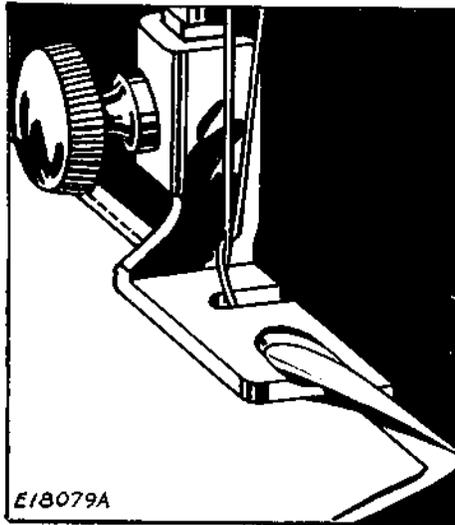

FIG. 37
(1) When making this seam, the garment must first be fitted and the edge of the material trimmed, allowing for about $\frac{1}{8}$ inch seam. Insert the two edges of the material, right sides together, in the hemmer in the same manner as a single hem as shown in **Fig. 37**. If the material is bulky, place the edge of the upper piece of material about $\frac{1}{8}$ inch to the left of the edge of the under piece.
(2) The free edge of the hemmed seam may be stitched flat to the garment, if desired. To do this, open the work out flat, wrong side up, then insert the hem in the scroll of the hemmer, holding the edge of the hem in position while it is being stitched. If the seam is stitched flat to the garment, one row of stitching is visible on the right side.